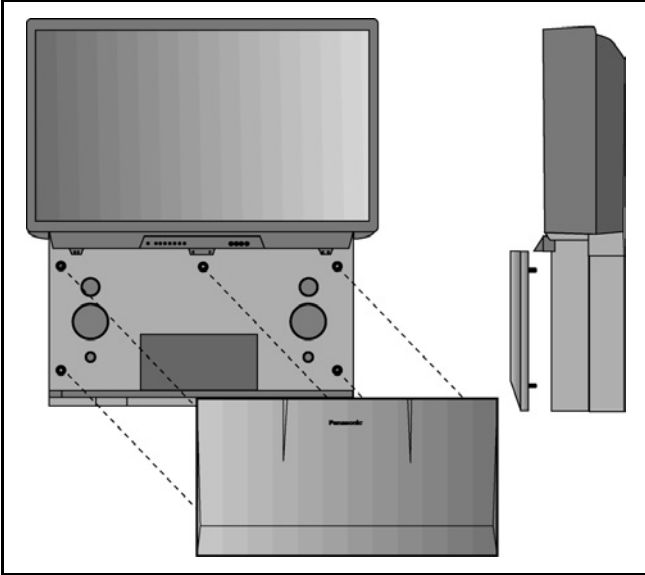

Figure 11. Speaker grille removal.
Speaker grille removal (figure 11)
1. Remove the speaker grille. See figure 11.
2. Each speaker is secured to the cabinet with (4) screws.